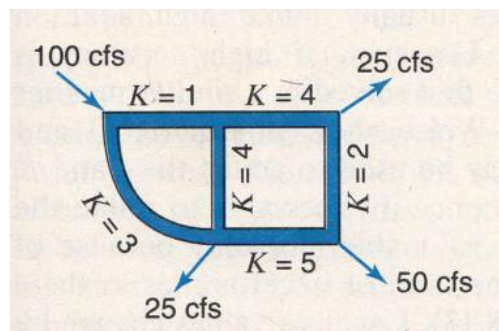

Figure 4.1
4. If the flow into and out of the loop pipe are as shown in figure 4.1, determine the flow in each pipe, given the K values as shown.